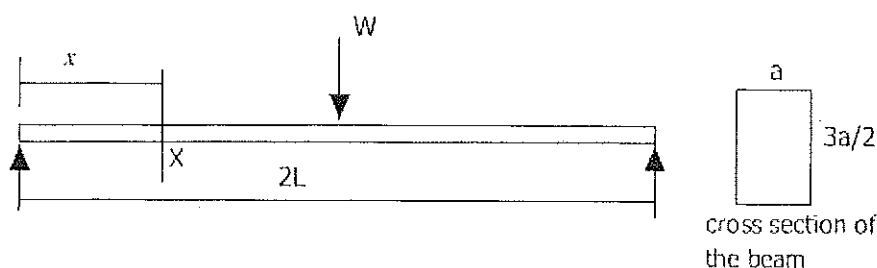

Figure Q6
- Q6 A Simply supported beam having a rectangular section carries a central load W as shown in Figure Q6. The section having maximum bending moment is close to yielding at the outer surface.